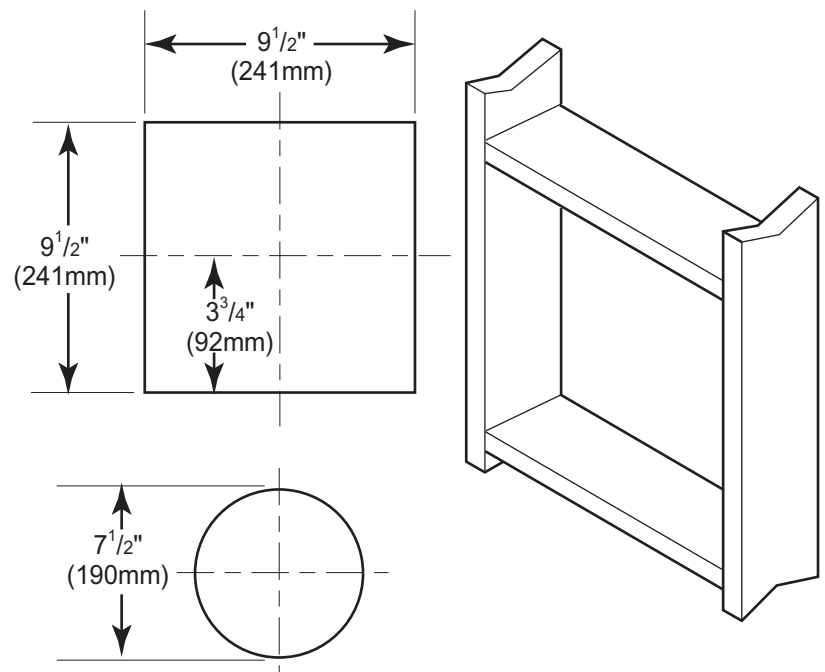

Figure 27 - Exterior Wall Framing Dimensions for 4"x6⁵/₈"
2. The center of the hole should line up with the center line of the horizontal rigid vent pipe end. Allow $\frac{1}{4}$ " minimum rise per foot. See Figure 27.